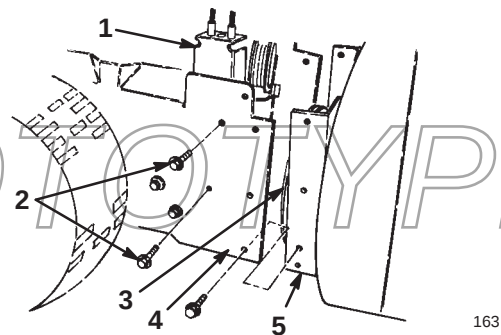

Figure 2
1. Remove the 2 flange-head bolts that secure the idler pulley assembly to the engine frame, and remove the idler pulley assembly (Fig. 2).
2. Align the holes in the auger/impeller housing with the holes in the engine frame (Fig. 2).
3. Route the auger/impeller drive belt around the impeller pulley (Fig. 2).
5. Install the idler pulley assembly, aligning the idler pulleys with the belts (Figs. 2 and 30).